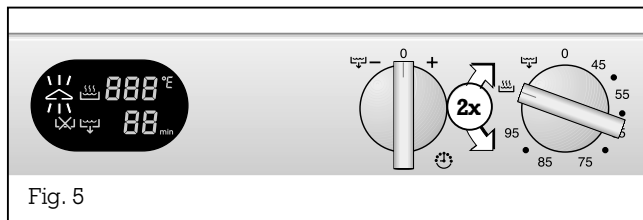

Fig. 5
- Turn the same control knob to and fro **two times** between the steam cooking level and the 95°C position. Then turn the control knob to the "steam cooking level" (Fig. 5).